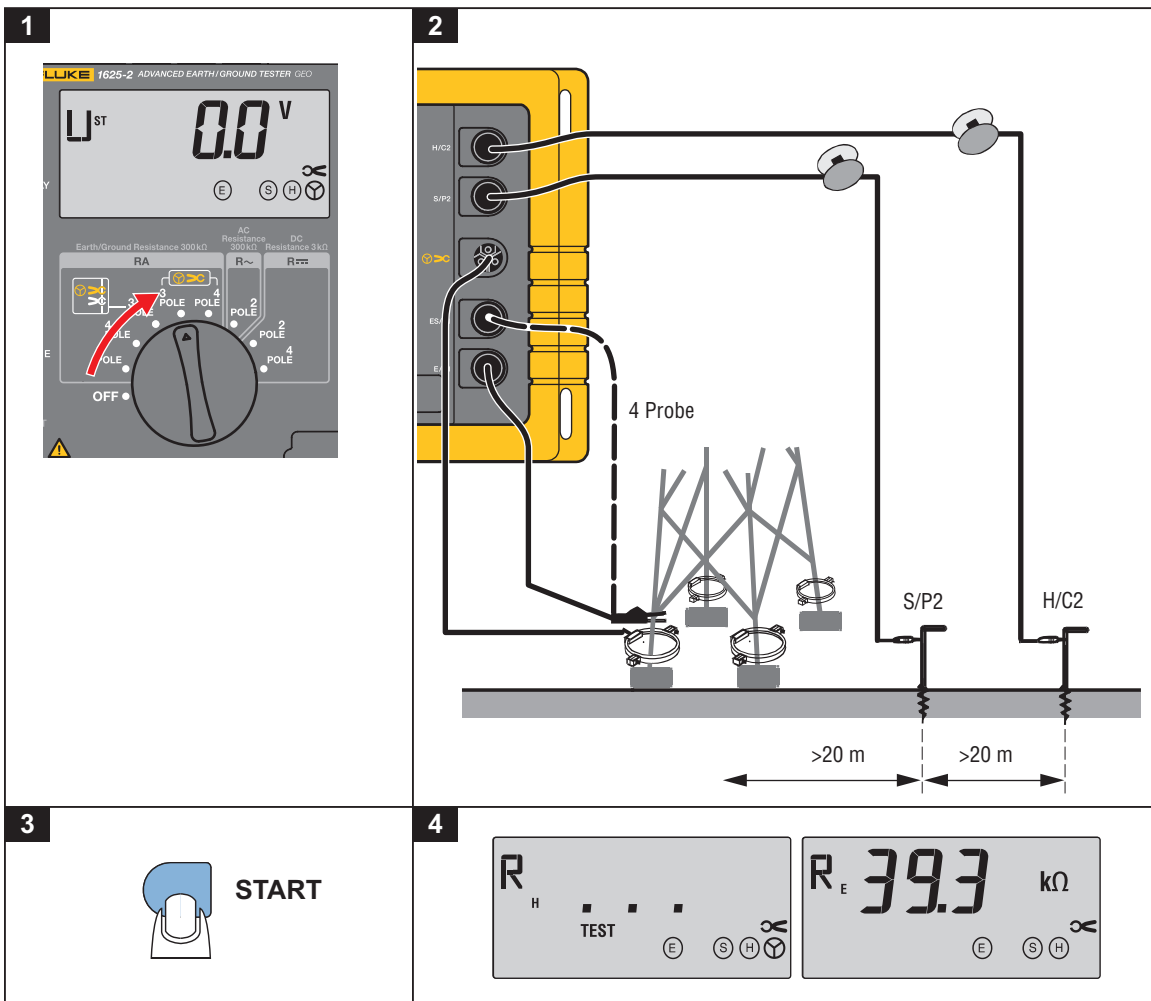

Figure 7. Earthing Resistance without Disengaging the Overhead Earth Wire
The new measuring method employed in this instrument - with its external current transformer to measure the true current flowing through the earth electrode - allows measurements of earth electrode resistances without disconnection of the earthing system or disengaging the overhead earth wire. See Figure 7.
1. Turn central rotary switch to position "**▷CRE 3pole**" or "**▷CRE 4pole**". The instrument is wired according Figure 7 and messages on the display.